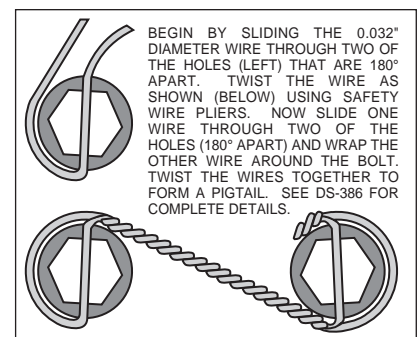
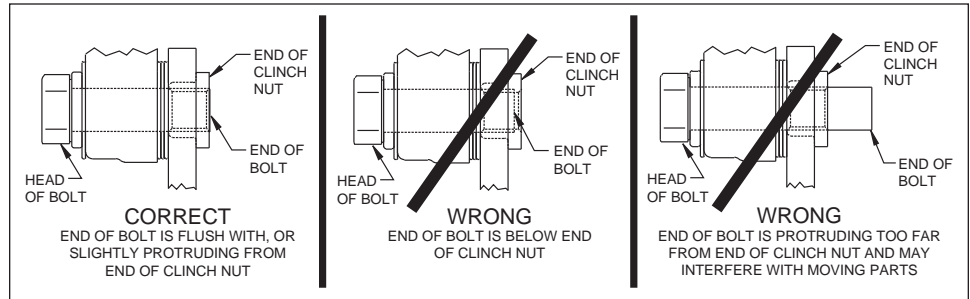

Figure 4. Safety Wire Diagram
Figure 5. Clinch Nut Engagement Diagram
**Assembly Instructions** (numbers in parenthesis refer to the part list/diagram on the preceding page): **CAUTION:** All mounting bolts must fully engage insert nuts. Be sure to check that all bolts are either flush or protruding through flanged side of insert nut after shimming, Figure 5.
- With the slot pointing upward and the mounting ears pointing towards the rear of the vehicle, install the caliper mounting bracket (1) to the housing flange using the stock Original Equipment Manufacturer (OEM) bolts and nuts. Stock OEM hex nuts that retain the bracket (1) should be on the wheel side of the bracket. Apply red *Loctite*® 271 to the stock OEM bolt threads and torque to OEM specifications. **NOTE:** Some brackets act as the bearing retainers, while others help locate the bearing in the axle housing flange. If the stock bearing plates are still on the axle, the caliper mounting brackets (1) should be located between the axle housing flange and the bearing retainer plate. Make sure the heads of the caliper mounting bracket insert nuts are FACING OUTWARD TOWARDS THE WHEEL.
- Bolt the hat (2) to the rotor (3) using washers (4) and bolts (5). Torque bolts (5) to 180 in-lb. Safety wire bolts (5) using standard 0.032 inch diameter stainless steel safety wire as shown in Figure 4. Please refer to Wilwood's data sheet DS-386 (available at [www.wilwood.com/Pdf/DataSheets/ds386.pdf](http://www.wilwood.com/Pdf/DataSheets/ds386.pdf)) for complete safety wire installation instructions.
- Align the correct hole pattern in the hat (2) with the stud pattern on the axle flange. **NOTE:** Some OEM and after market axles come with stud sizes larger than 0.50" diameter. Verify stud size and have a qualified machine shop drill the hats to the correct size. Slide the hat/rotor assembly (2 and 3) over the wheel studs and against the axle flange face.
- NOTE:** Please reference the caution statement at the beginning of the assembly instructions. WITH THE BLEED SCREWS POINTING UP, mount the caliper (6) over the rotor (3) and onto the caliper mounting bracket (1) using washers (7) and mounting bolts (8). View the rotor through the top opening of the caliper. The rotor should be aligned in the center of the caliper. If not, adjust the caliper by using 0.032 inch shim washers (9), placing them between the caliper mounting bracket (1) and the caliper (6). Add as many shim washers (9) as necessary to achieve the correct alignment. **NOTE:** The end of the bolt must be flush with or slightly protruding from the head of the clinch nut. See Figure 5. Place spare shims (9) between washer and caliper mounting ear to achieve the proper mounting fastener configuration. Always use the same amount of shims on both the top and bottom caliper mounting bolts (8). Apply red *Loctite*® 271 to the mounting bolt threads (8), torque bolts to 30 ft-lb. Safety wire the caliper mounting bolts (8).
- Position the Wilwood disc brake pads (10) into the caliper (6) and fasten with cotter pin (11). Steel backing plate side of brake pad should face the caliper pistons.